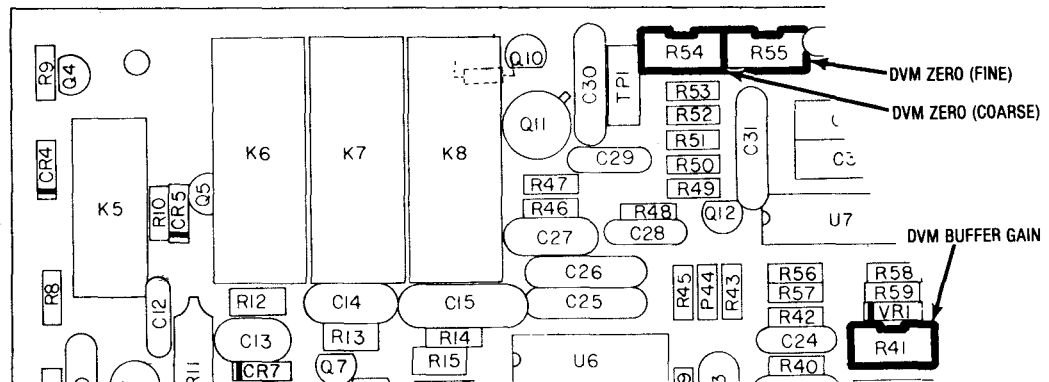

Figure 5-17. DVM Input Buffer Alignment Points
4. Adjust the Coarse and Fine DVM Zero potentiometers on the Front Panel Interface board (Figure 5-17) for a reading of 0 ± 0.5 mV on the external DVM.
7. Reconnect the external DVM between pin 1 and pin 6 of J3. The external DVM should show a reading equal to one-tenth the voltage at TP 12 noted in paragraph 5-119.6 plus or minus 10 mV. If the reading falls outside this range it will be necessary to physically disconnect the front panel from the chassis in order to adjust the DVM Input Gain Potentiometer on the Front Panel Interface Card (Figure 5-17).